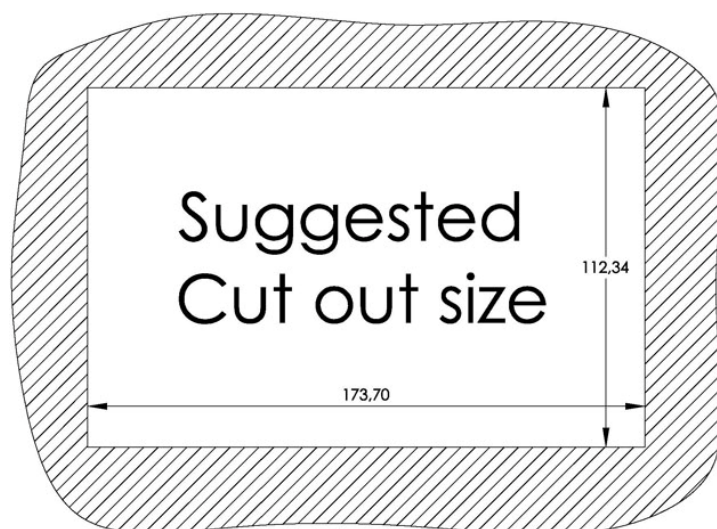

Figure 3-14: IOVU-752S Panel Opening (mm)
- Step 2:** Cut out a section from the panel that corresponds to the rear panel dimensions of the IOVU-752S. Take care that the panel section that is cut out is smaller than the overall size of the frame that surrounds the IOVU-752S but just large enough for the rear panel of the IOVU-752S to fit through (see **Figure 3-14**).